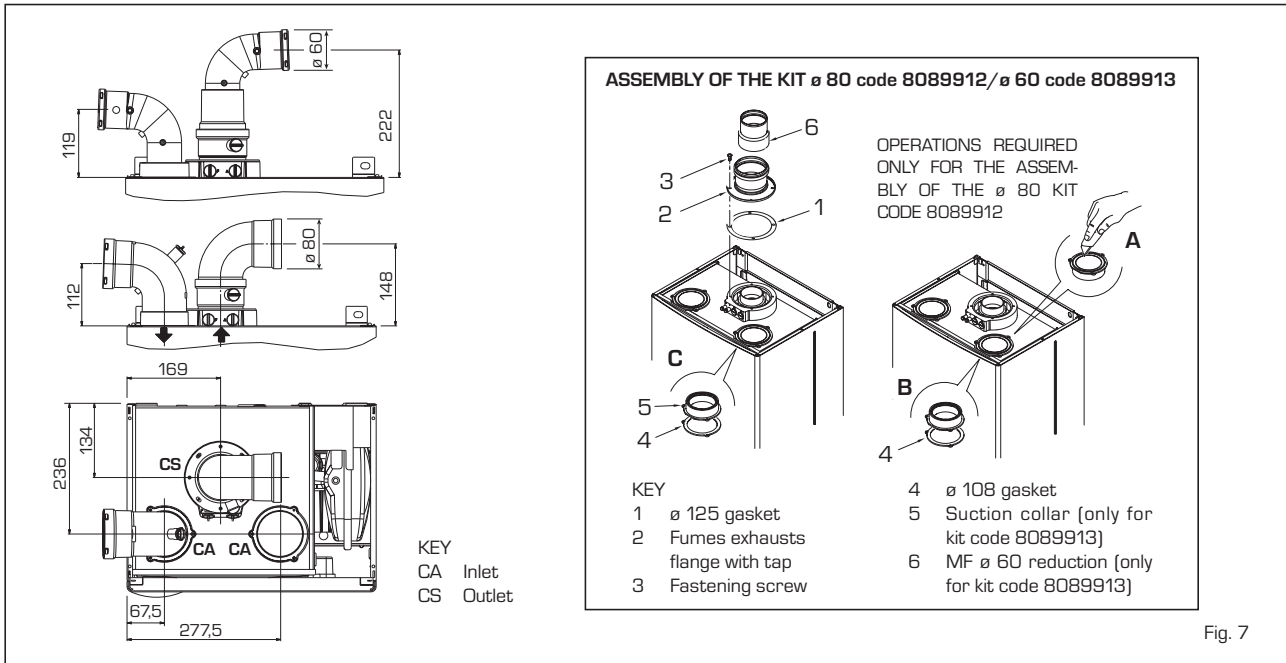

Fig. 7
## 2.6 INSTALLATION OF SEPARATE DUCTS ø 80 - ø 60 (fig. 7 - fig. 8)
The kit with dedicated pipes enables to separate the exhaust fumes pipes from the air suction pipes (fig. 7):
**exhaust flange [pos. 2 fig. 7] when the total load loss of the separate ducts is below H2O (do not use the diaphragm with total load losses above 9 mmH2O up to 15 mmH2O).**